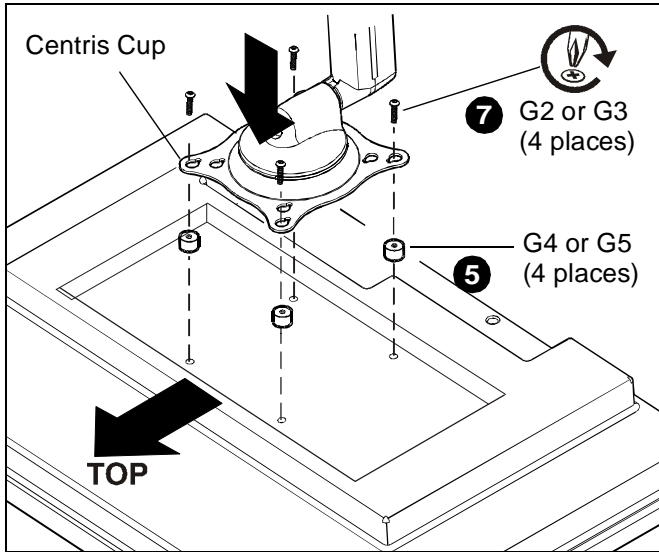

Figure 6
5. Place the four (G4 or G5) spacers over each mounting hole on the back of display. (See Figure 6)
6. Orient mount so that mounting holes in the Centris cup are aligned with the holes in the spacers (G4 or G5); rotate the Centris cup as required (See Figure 6).
7. Using Phillips screwdriver, install four screws (G2 or G3) through the mounting holes in Centris cup, through the spacers (G4 or G5), into display (See Figure 6).